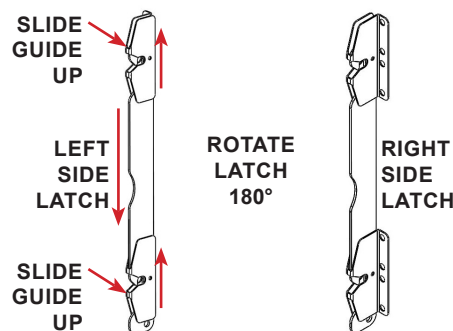

FIGURE 3.5 - Latch Assembly Rotate
**STEP 4:** Flip, rotate the latch assembly so the latch bar is on the inside of the cage frame and that both latch guides are in the top position. Hold the latch guides while sliding the latch bar down to the lowest position on both guides. See FIGURE 3.5